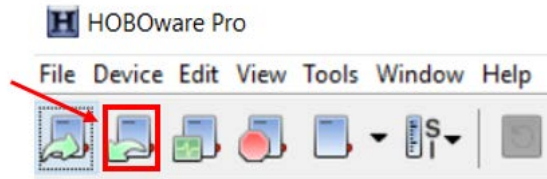

Figure A.9.17: The HOBOWare readout button.
13. Click the readout button on the top menu as shown on Figure A.9.17.